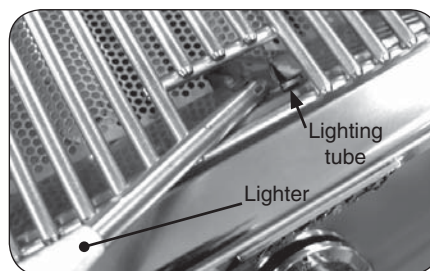

Fig. 13-2 - Manual lighting
2. Insert either a burning long-barrel butane lighter or a burning long-stem match through the cooking grid opening to the top of the lighting tube. (Fig. 13-2). For backburners, hold the flame against the surface of the backburner. For charcoal burners, hold the flame near the burner.
4. If the burner does not light, **immediately depress the knob and turn the valve to OFF**. **WAIT FIVE (5) MINUTES** before repeating steps 2 through 4 of the **MANUAL LIGHTING** instructions.